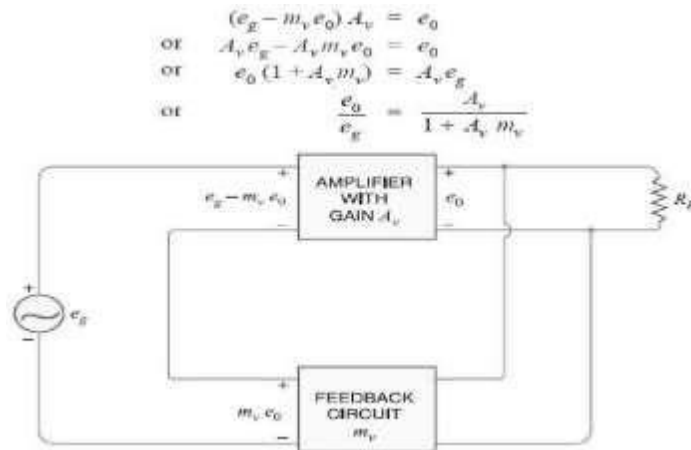
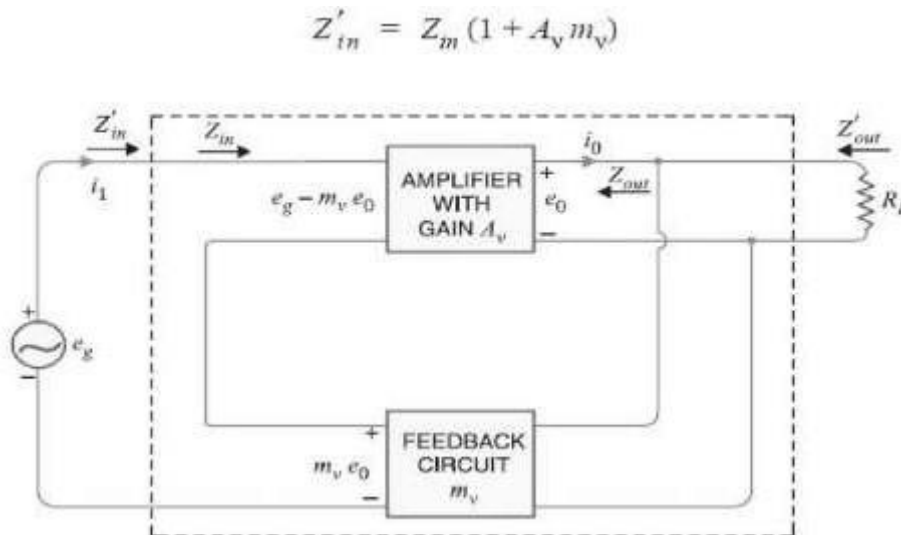

Figure 1.4
Figure 1.5
Consider the negative voltage feedback amplifier shown in Fig. 1.4. The gain of the amplifier without Feedback is A_v . Negative feedback is then applied by feeding a fraction m_v
a) Input impedance. The increase in input impedance with negative voltage feedback can be explained by referring to Fig. 1.4. Suppose the input impedance of the amplifier is Z_{in} without feedback and Z'_{in} with negative feedback. Let us further assume that input current is i_1 . Referring to Fig. 1.5, we have,